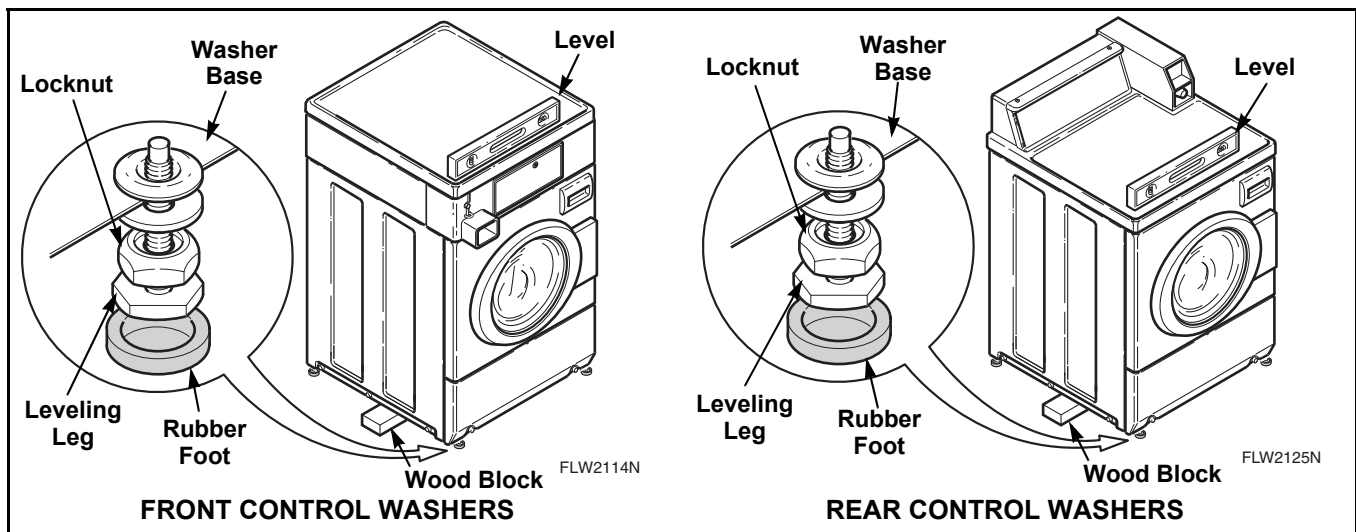

Figure 13
- Place level on washer, refer to *Figure 13*, and check if washer is level from side to side and front to back.
NOTE: Level must rest on raised portion of top panel. Refer to *Figure 13*.
- If washer is not level, tilt washer to access front and rear leveling legs. For easier access to leveling legs, prop up washer with wooden block. Refer to *Figure 13*.
- Loosen locknuts and adjust the leveling legs until the washer is level from side to side and front to back (using a level). **Make sure washer does not rock.** Refer to *Figure 13*.
- Place rubber feet on all four leveling legs. Refer to *Figure 13*.